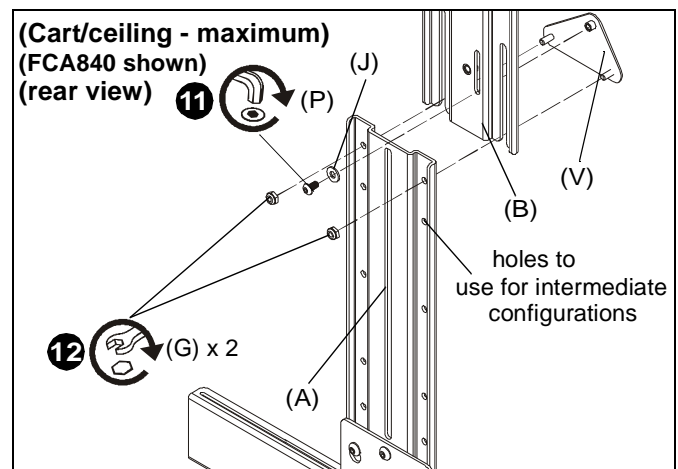

Figure 11
- (For **maximum/intermediate extension**) Use #10-32 x 3/8" button head cap screw (P) and small washer (J) to secure adapter plate (V) to main bracket (B). (See Figure 11)
- (For **maximum/intermediate extension**) Use two #10-24 lock nuts (G) to secure upright bracket (A) to main bracket (B) and adapter plate (V). (See Figure 11)